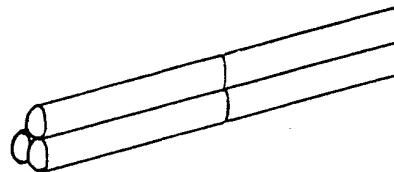

FIGURE 1
1. Take the six straightest ferrite rods you have and try different end-to-end rod pairings until you have three pairs whose ends "kiss" well and whose overall lengths are relatively straight. Form a triangle (actually a 16" long "prism") with the three pairs, again trying different combinations and positions to attain the best matching of ends and sides. See Figure 1.
3. After the epoxy has completely hardened, arrange the three 16" rods in the prism shape illustrated in Figure 1 applying liberal amounts of epoxy to all surfaces which "kiss" to form the prism. You might want to then wrap a rubber band or twist tie around the assembly until the epoxy cures.